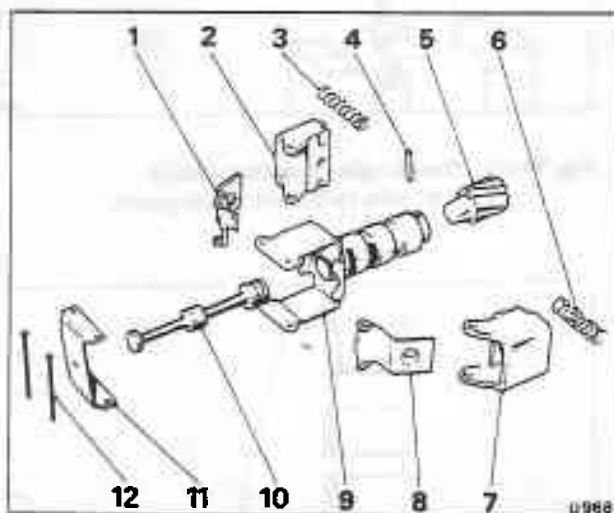

Fig. T10-2 Governor assembly – exploded
2. Remove the pins, thrust cap, governor weights, and springs (see fig. T10-2). The weights are interchangeable and need not be marked for identification.